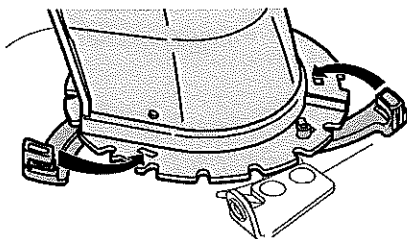

Figure 10
2. Close flange keepers to secure chute assembly to chute base. Flange keepers will click into place when properly secured (Figure 10).